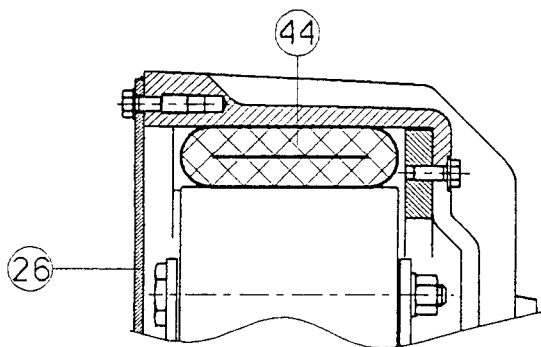

Figure 1.2 - Mechanical Parts
Movement of the rollers is protected by the transparent cover (26) as shown in Figure 1.2.